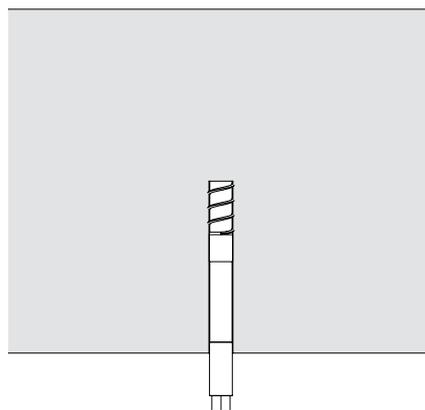

Fig. A5.15
1. Inject Composite Mortar CF-T 300 V (50).
2. Screw the Anchor Bolt M16/M24 x 50 (51) and Chemical Anchor Sleeve TSM BC 22 x 75 IM 16 (52) tightly together.
3. Screw the unit into the drilled hole with an impact wrench (nominal torque 600 Nm). (Fig. A5.15)